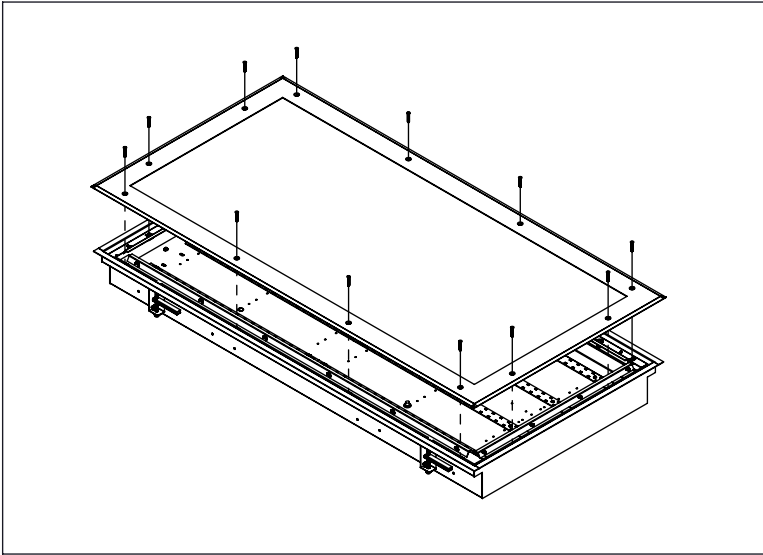

Figure 1
1. Remove fasteners and frame (Fig. 1).